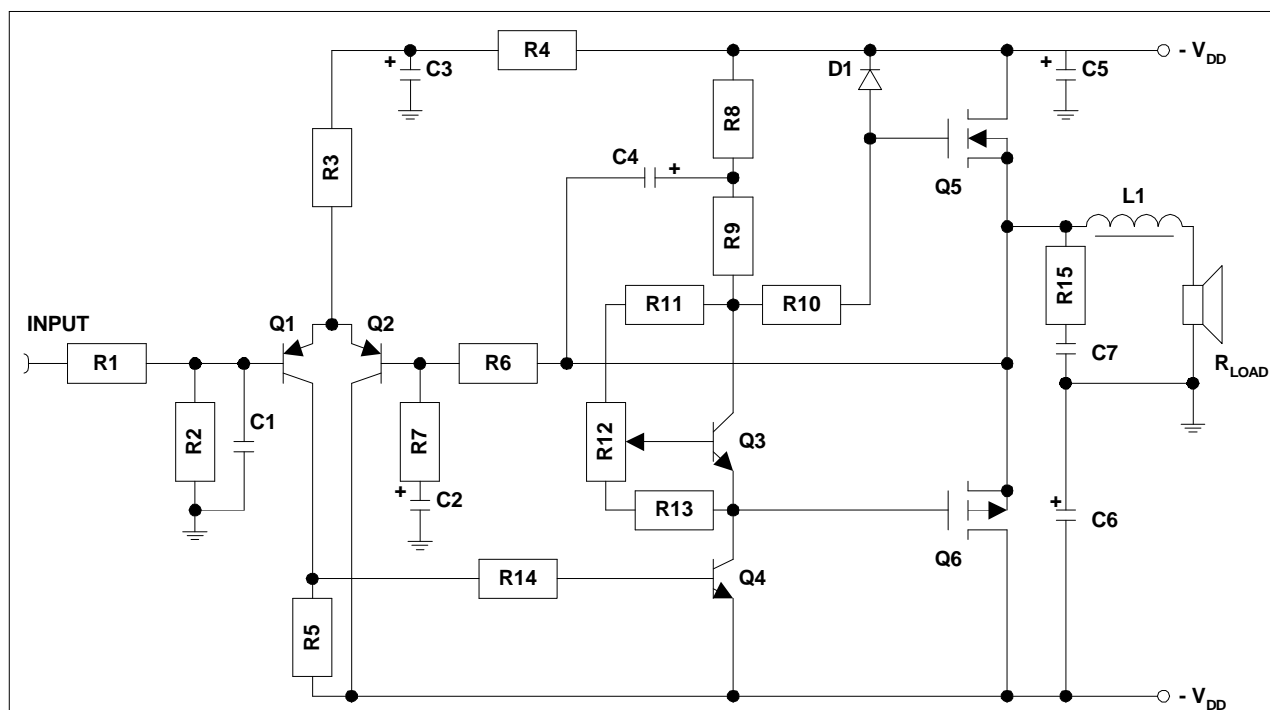
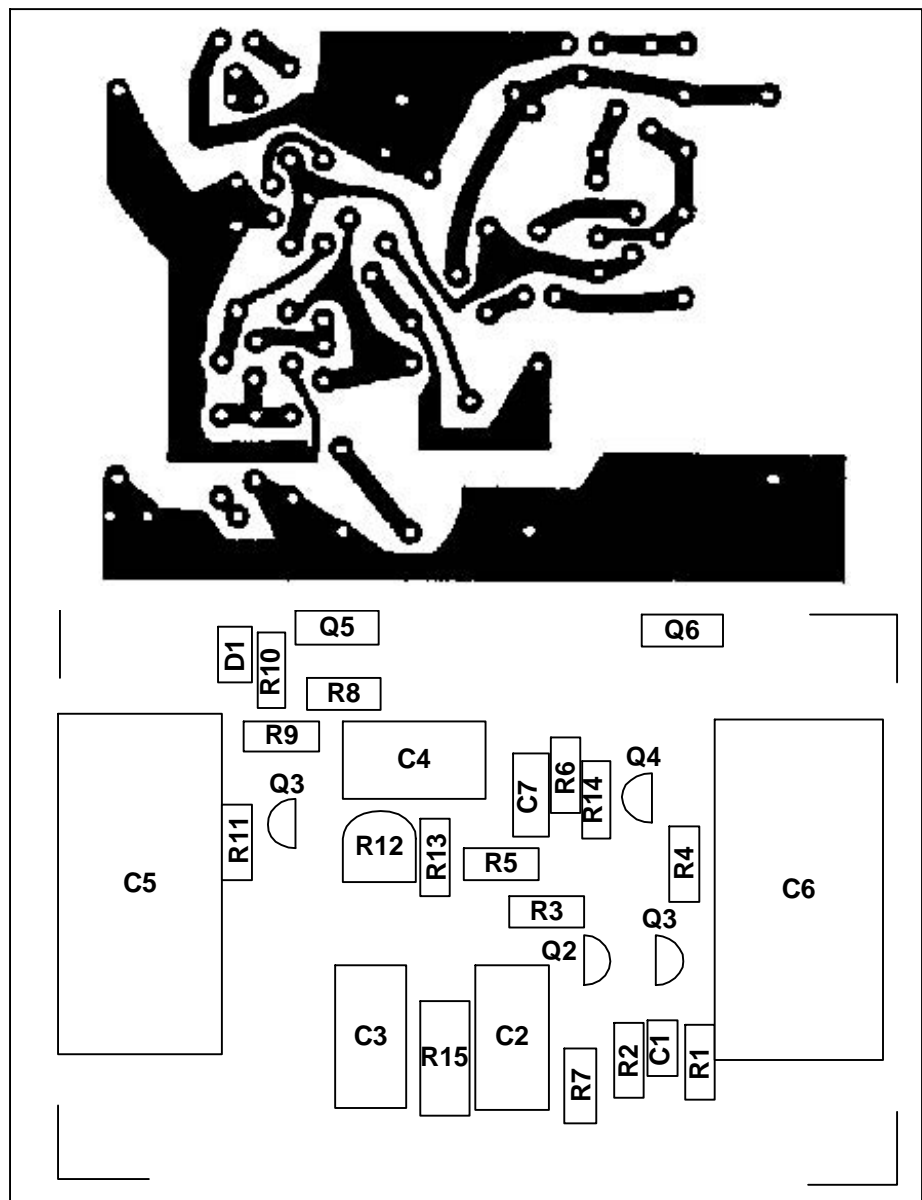
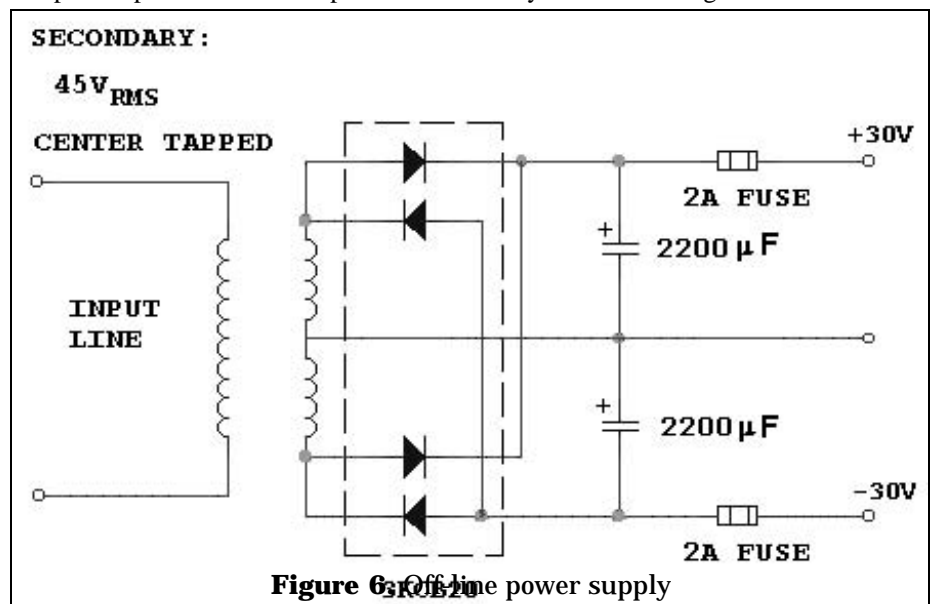

Figure 1. Class AB Amplifier Circuit Diagram
Figure 2. Amplifier Printed Circuit Board Layout
Figure 6. Off-line power supply
The amplifier circuit diagram is shown in Figure 1, and the components listing in Table 1. Split power supply rails ($\pm V_{DD}$) are used, giving improved rejection of power supply ripple and allowing the load, R_{LOAD} , to be direct coupled. The output devices Q_5 , Q_6 , operate in source follower configuration. This offers a twofold advantage; a) the possibility of oscillation in the power output stage is reduced as the voltage gain is less than unity and b) signal feedback through the heatsink on which the devices are assembled is eliminated as the drain terminal, which is electrically connected to the tab on the TO220 package, is at dc voltage.
Figure 2 shows a printed circuit layout which can be used for the circuit shown in Figure 1. The preceding design rules have been followed.
(d) *Quiescent Operating:* The dependence of the quiescent current in the output stage and of the offset voltage on power supply voltage are illustrated in Table 2. The quiescent current is set by first adjusting the potentiometer, R₁₂, for minimum offset voltage-turned fully anticlockwise if the pcb layout in Figure 2 is used - and applying the power supply voltage, the positive
A simple line derived power suitable for the class AB amplifier is illustrated in Figure 6. The $\pm 30V$ supplies are taken from the centertapped secondary of the line transformer. The $2200\mu F$ decoupling capacitors, (Figure 1) which should be mounted as close as possible to the amplifier output stage, reduce the supply frequency ripple to 5.5V pk-pk at full load.
It is unlikely that any experienced experimenter will have difficulty in achieving satisfactory results when building an amplifier to this design. The printed circuit board shown in Figure 2 is intended to assist in this respect. The major problems anticipated are those associated with the faulty assembly of components and damage to the HEXFET Power MOSFETs through handling or circuit oscillation.
1. When assembling the printed circuit board, mount the passive components first, ensuring the correct polarity of electrolytic capacitors. Then solder in the transistors $Q_1 - Q_4$ checking for correct pin identification. Finally, mount the HEXFET Power MOSFETs, avoiding static discharge by shorting the pins together to ground and using a grounded soldering iron. Check the assembled board for correct component placement. A component side overlay as shown in Figure 2 is useful for this purpose. Check the copper side of the board for solder bridges between tracks, and remove them. Check for dry solder joints visually and electrically using a resistance meter and rework, if necessary.
2. Power can now be applied to the amplifier and the output stage quiescent current set to between 50 and 100mA. The potentiometer, R_{12} is first adjusted for minimum offset (fully anticlockwise on the pcb layout in Figure 2). An ammeter is connected in series with the positive supply and selected to read 1A f.s.d. R_{12} is adjusted until the ammeter reads between 50mA and 100mA.
Check the assembled board for correct component placement. A component side overlay as shown in Figure 2 is useful for